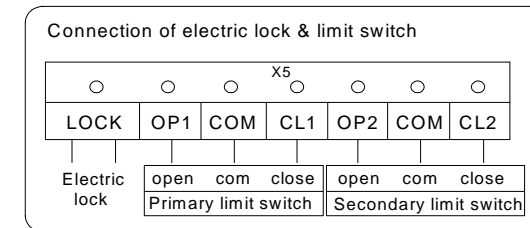

Fig.26
**Electric lock DC12V** (see Fig.26)
**Limit switch** (see Fig.26)